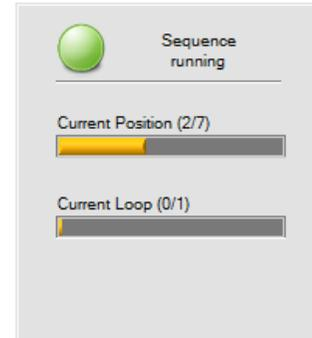

Figure 23: Test Sequence running
To start a sequence select **Automated Test Sequence** in the selection tabs and press **Start (C)**. The indicator will change from **Sequence stopped** to **Sequence running** and two sliders will show the current position and loop number of the test sequence. (Figure 23)